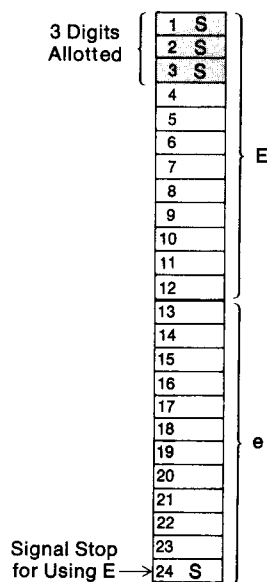

Fig. 2
- To use the UPPER HALF of a register (F, E, D) in this manner there *must* be a 'signal stop' (an S) in the 24th position of the register concerned (see Fig. 2).